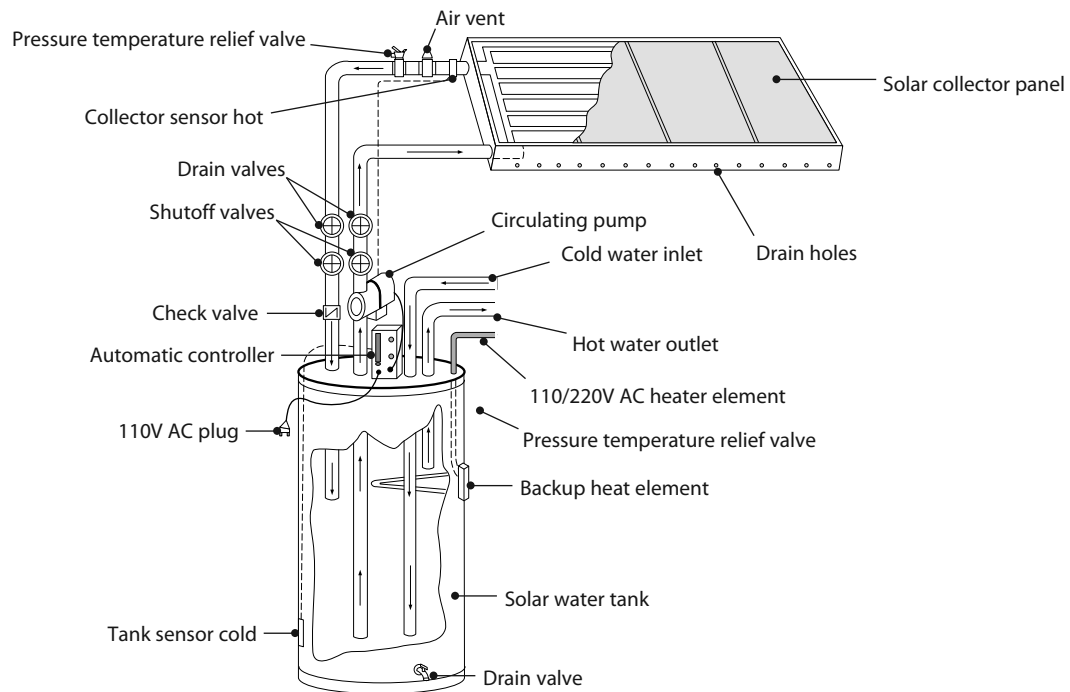

Figure 18-8
Some authorities may require you to locate the pressure temperature relief valve at the highest point of the solar piping system, near the automatic air discharge valve (air vent). See Figure 18-8. When a relief valve is located on the roof, codes don't normally require a separate discharge line to the ground. They'll usually accept the discharge of the solar system's relief valve onto the roof.
If there's not enough space for a larger tank, install a solar storage tank with a backup heater element. See Figure 18-8.
- Install an adequate and accessible drain valve. See Figure 18-8.